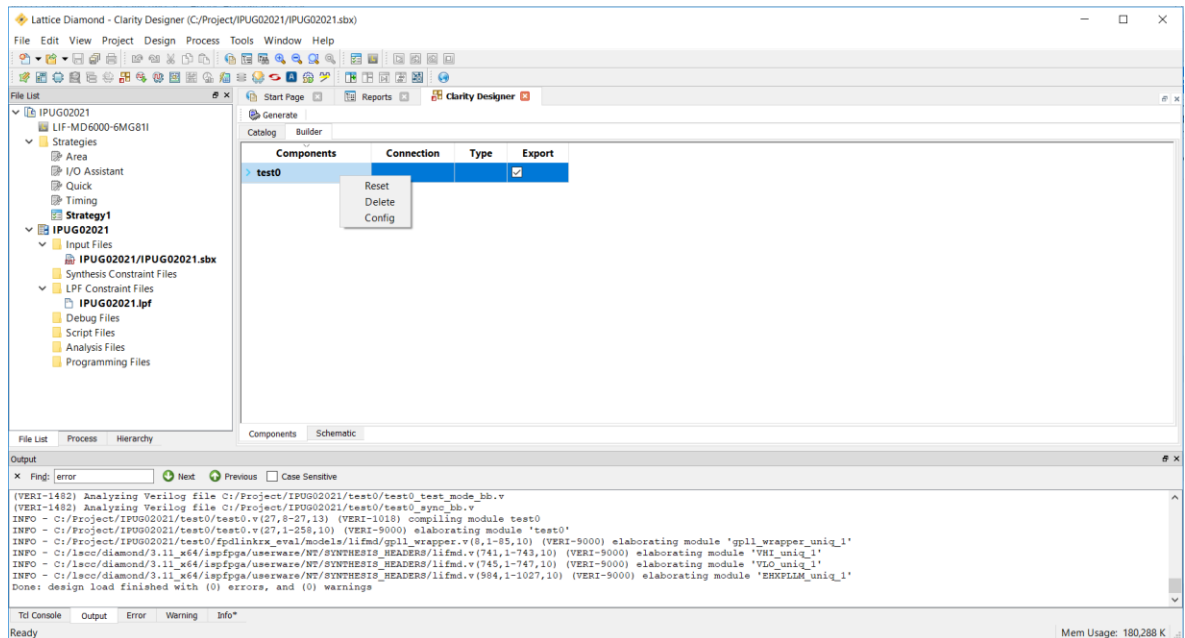

Figure 5.9. IP Regeneration in Clarity Designer
1. In the **Builder** tab, right-click the IP instance to be regenerated and select **Config** from the menu as shown in Figure 5.9.
IP Generation and Evaluation	Updated user interface screenshots: - Figure 5.1. Clarity Designer Window - Figure 5.2. Starting Clarity Designer from Diamond Design Environment - Figure 5.3. Configuring OpenLDI/FPD-LINK/LVDS Receiver Interface IP in Clarity Designer - Figure 5.4. Configuration Tab in IP Interface - Figure 5.9. IP Regeneration in Clarity Designer